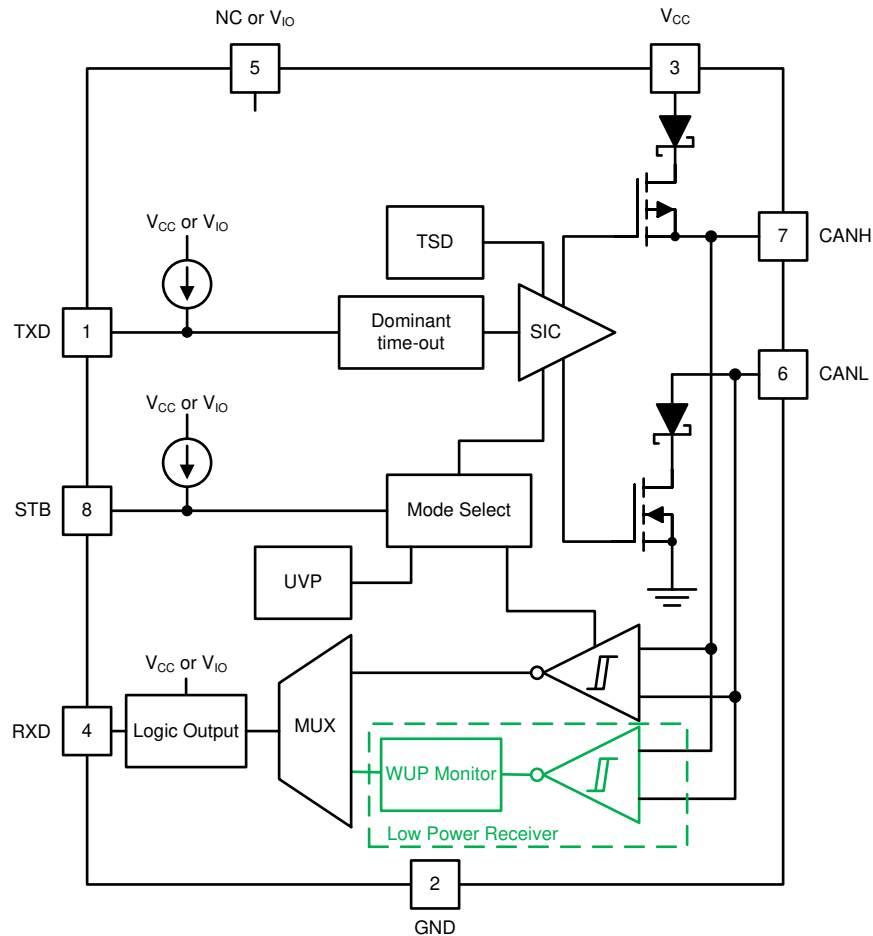

Figure 1-1. TCAN1472-Q1 and TCAN1472V-Q1 Functional Block Diagram
Figure 1-1 shows the device functional block diagram for reference. TCAN1472V-Q1 has the V_{IO} input at pin 5, while TCAN1472-Q1 has a no connect (NC) at pin 5.